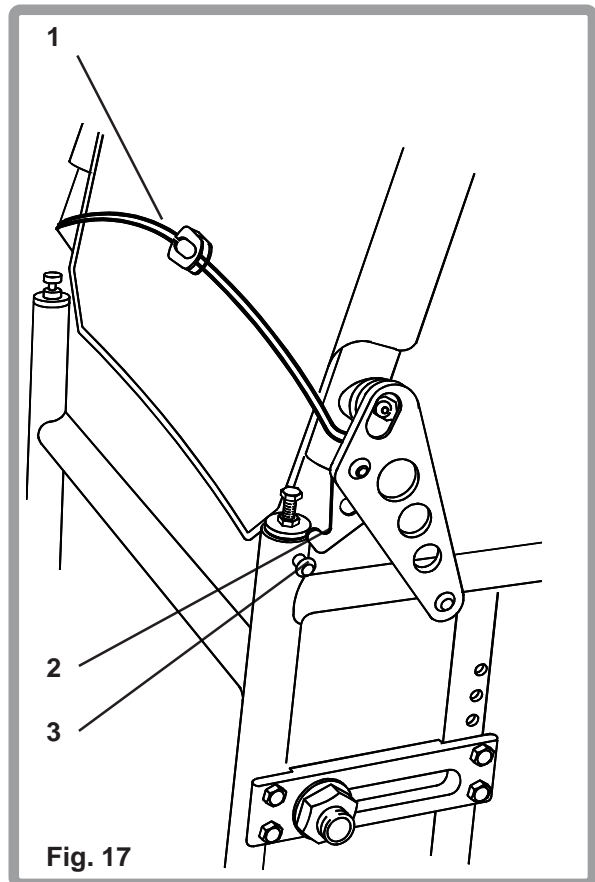

Fig. 17
To fold the backrest (Fig. 17), pull the strap (1) upwards until the locking levers (2) disengage. Swing the backrest into its folded position. To locate the backrest into the normal seating position simply pull it upright until the locking levers engage on the locking studs (3).